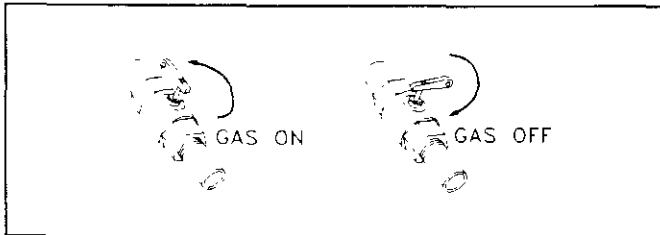

Figure 1. Typical Furnace External Manual Gas Valve.
2. Shut off external manual gas valve. See Figure 1.